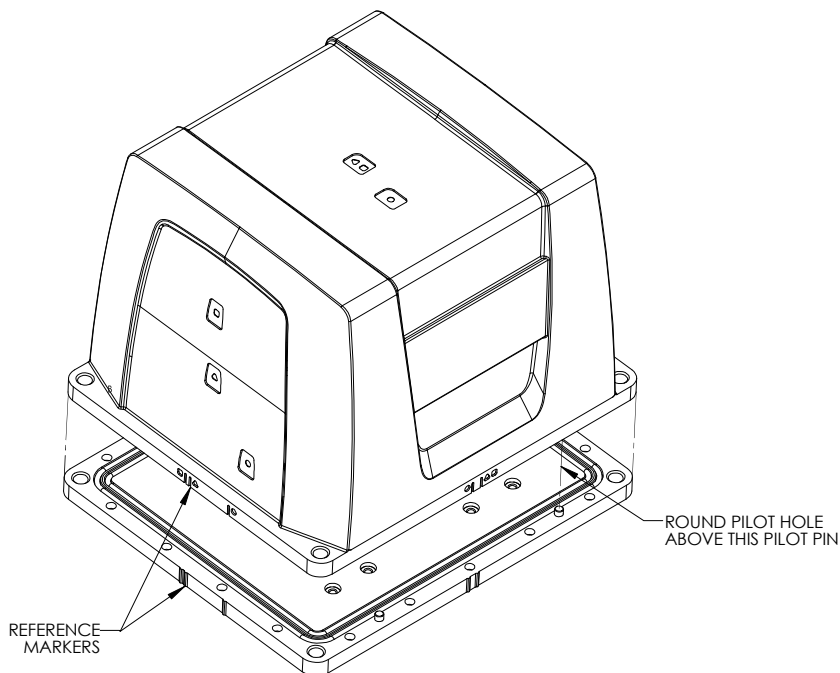

Figure 53: Install Enclosure Body on the Base
7. Clean the surface of the enclosure body, where it mates with the O-rings, using isopropyl alcohol. As shown in *Figure 53*, align the reference markers and pilot holes/pins of the enclosure body and base. Carefully lower the body onto the base, observing the O-rings and alignment of corners. Press the enclosure body into place, starting with the round pilot hole indicated in *Figure 53*.